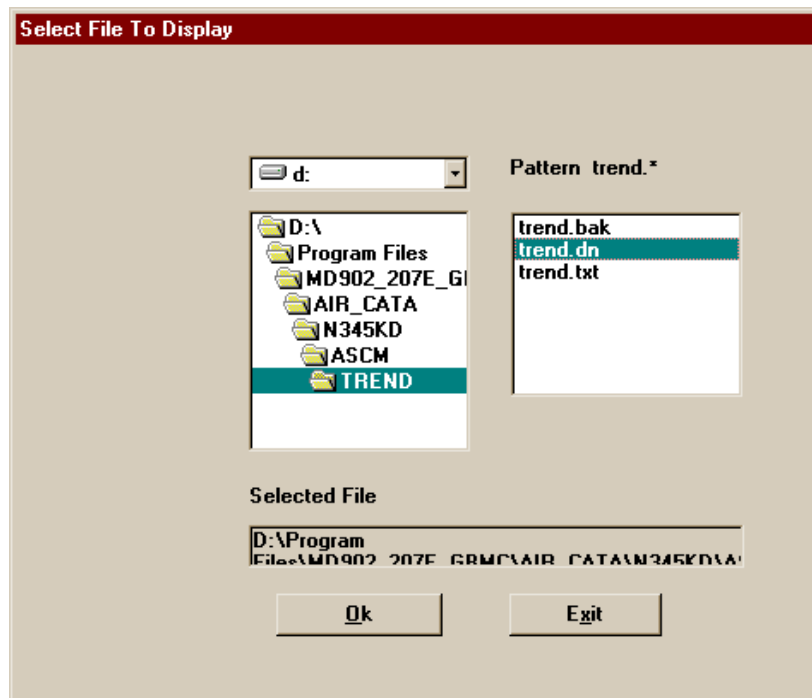

Figure 56. Select Trend Log Screen
5. The GBMC program will automatically select the aircraft Trend Log directory based on the aircraft you selected. Select the trend log file you wish to use (typically "<log file>.dn") and press OK (refer to Figure 56).